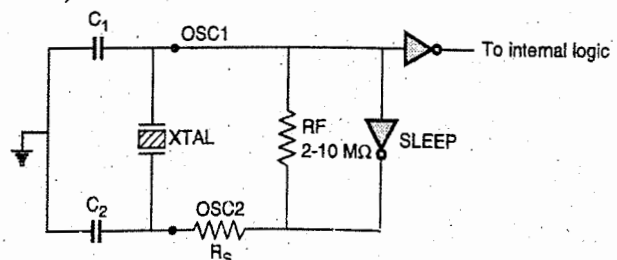

Fig. 4.13.3 : Crystal oscillator for XT, LP, HS and HS4 modes
Fig. 4.13.3 shows the crystal oscillator for LP, XT, HS and HS4 modes.
- As shown in Fig. 4.13.3 the crystal oscillator is connected to the OSC1 and OSC2 pins. A series or parallel cut crystal is used.